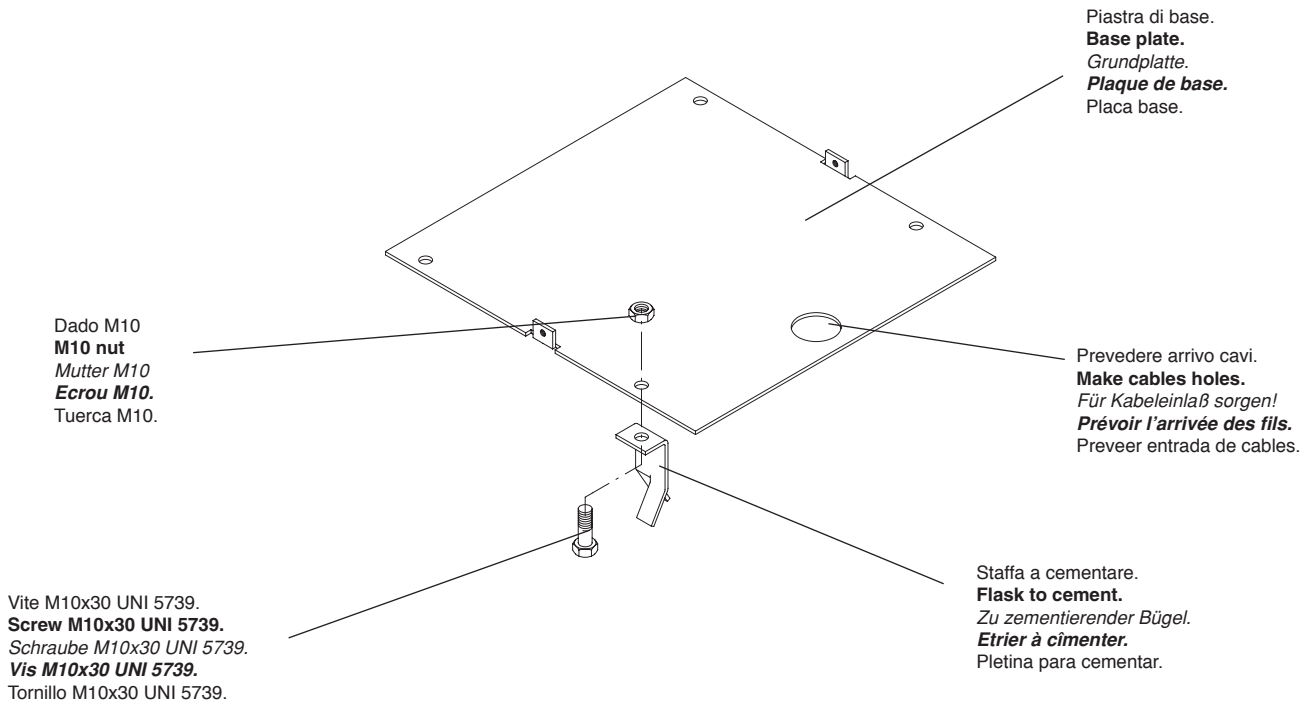

Fig.2
3.1 Fissare le staffe a cementare tramite le viti e dadi in dotazione alla piastra di base e cementarle a terra (fig. 2).
3.1 Fix the flasks to cement by tightening the screws and nuts to the base plate and cement them to the ground (fig. 2).
3.1 Fijar las pletinas de cementar mediante los tornillos y tuercas suministrados a la placa base y cementarlos a tierra (fig. 2).